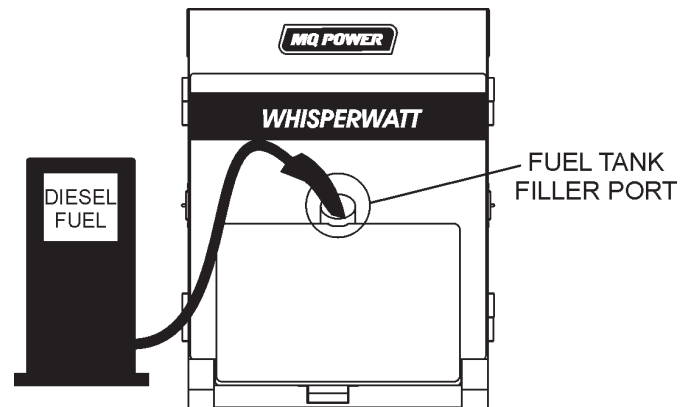

Figure 20. Fueling the Generator
2. Open cabinet doors on the “right side” of the generator (from generator control panel position). Remove fuel cap and fill tank (Figure 20).